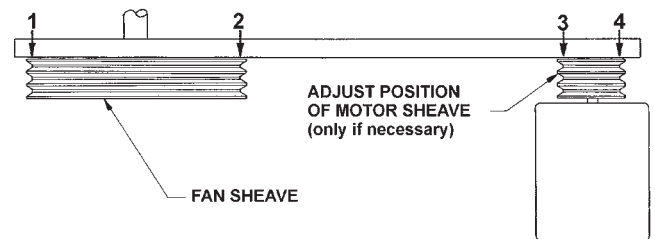

Figure 16 - Sheave Alignment Check.
8. Measure to see that the top and bottom of the motor base are the same distance out from the casing of the unit. This should insure that the sheaves are properly aligned as they have been pre-set at the factory. As a final check, lay a straight edge from sheave to sheave. There should be four point contact (See Figure 16). Adjust the position of the motor sheave as necessary.